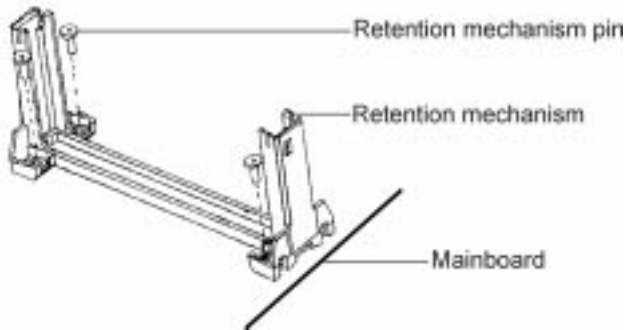

Figure 2-4 The retention mechanism for Slot1
- ❑ CPU Slot 1 retention mechanism and four retention mechanism pins (Figure 2-4)
2. Insert the retention mechanism pins into the four holes at the base of the retention mechanism (Figure 2-4), pushing down until they click into place.